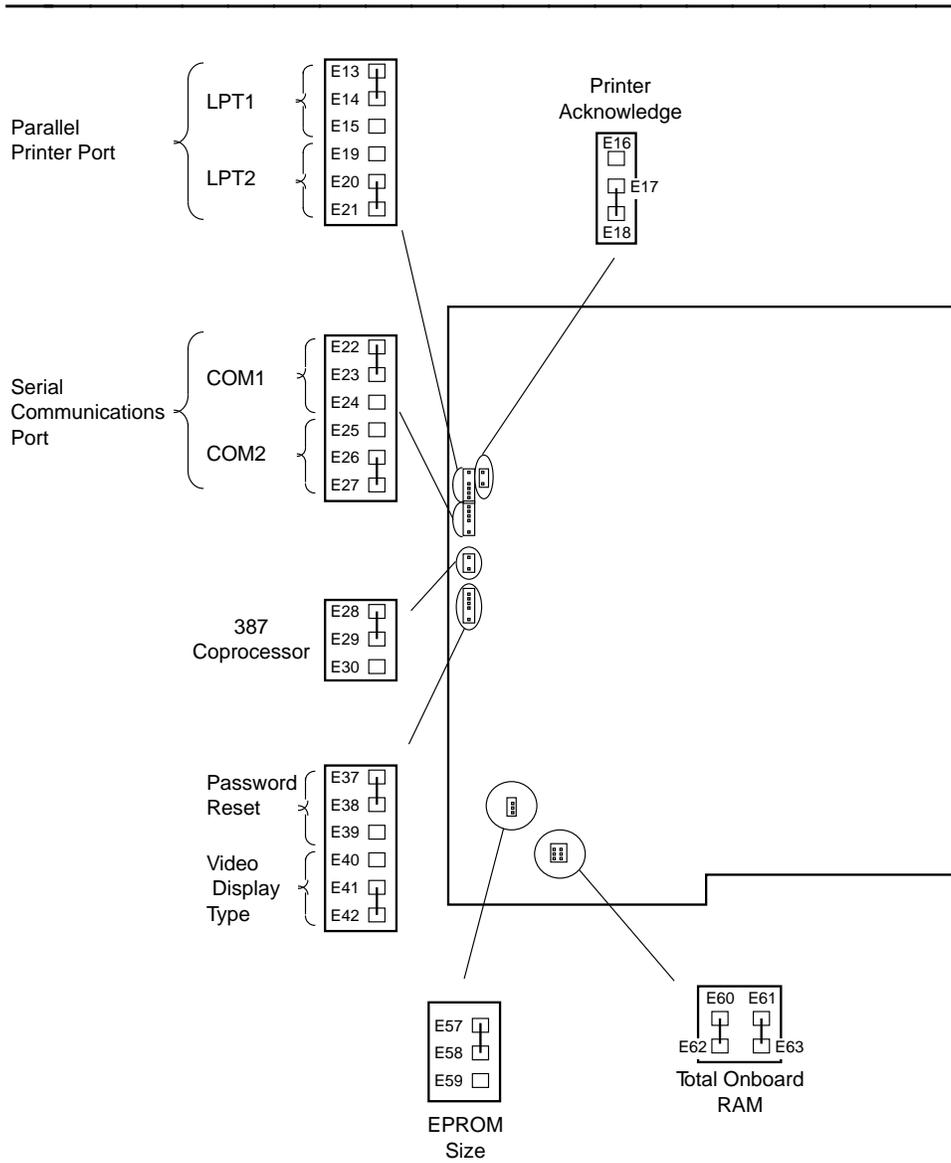

Figure A-4. Location of Jumpers and Settings on 6386/25 WGS (New board)
5. Make sure that the SIMM is seated correctly. If not, gently spread the retaining clips (C) just enough to permit the top edge of the SIMM to be pulled away from the clips. Then reseat the SIMM.
6. When the SIMM is seated, gently push the top edge back toward the slot retaining clips until it snaps into place (D).
8. Refer to Figures A-4 and A-5 to find the main board jumpers. These jumpers need to be changed to provide the correct memory configuration information to the system. It may be necessary to remove circuit boards already installed (for example, the video display controller board) if they are blocking access to the configuration jumper area. Make sure you replace these cards in the correct slots on the main board after you access the jumper settings.